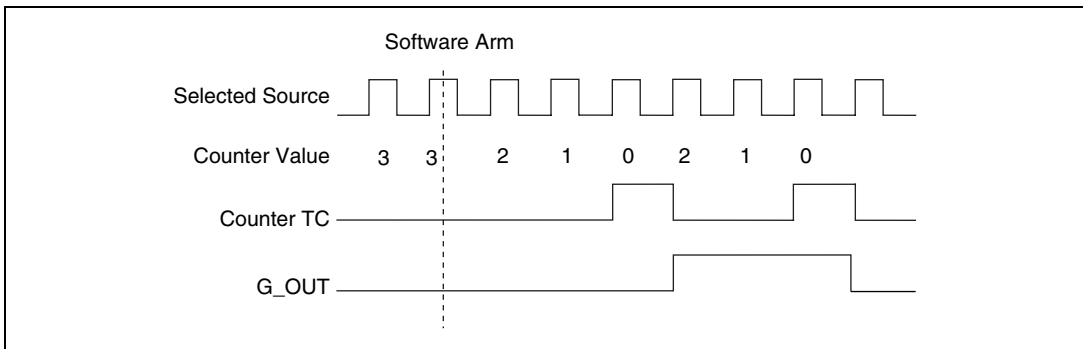

Figure 2-10. Single Pulse Generation
The single pulse generation function generates a single pulse with programmable delay and programmable pulse width following the software arm. Because the counter uses the Selected Source as a timebase to generate the pulse, specify the pulse parameters in terms of periods of the Selected Source input. Software implements pulse generation by loading the delay value into the counter, loading the pulse-width value into the load register, and programming the counter output G_OUT to change states on counter terminal count (TC). Figure 2-10 shows the generation of a single pulse with a pulse delay of four and a pulse width of three. The counter configuration is as follows: